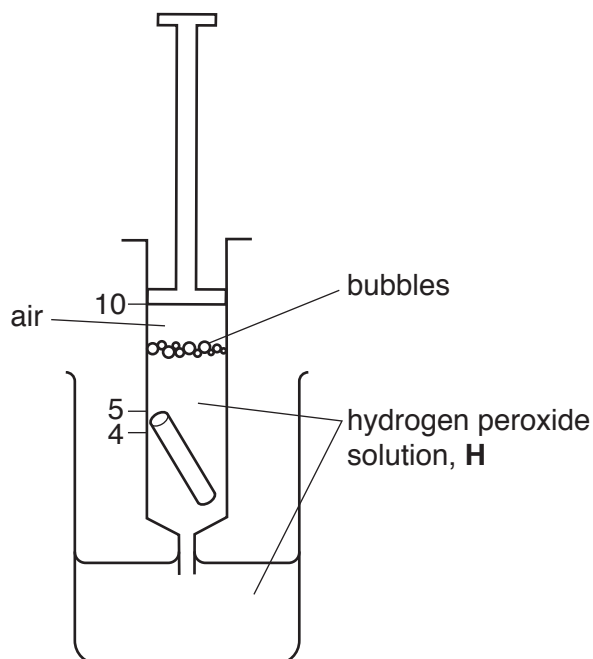

Fig. 1.6
9. Pull the plunger out to the 10 cm^3 mark so that **H** enters the syringe, as shown in Fig. 1.6.